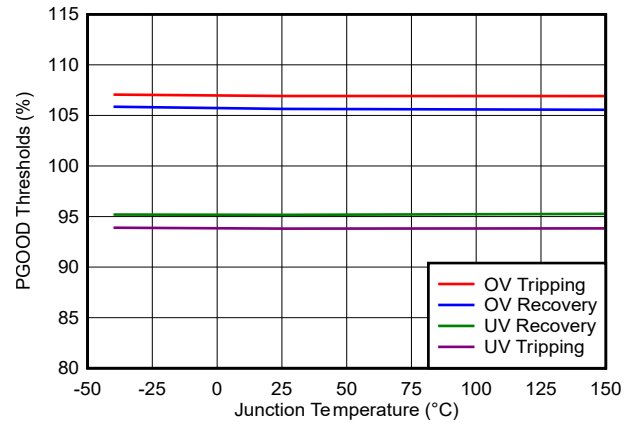
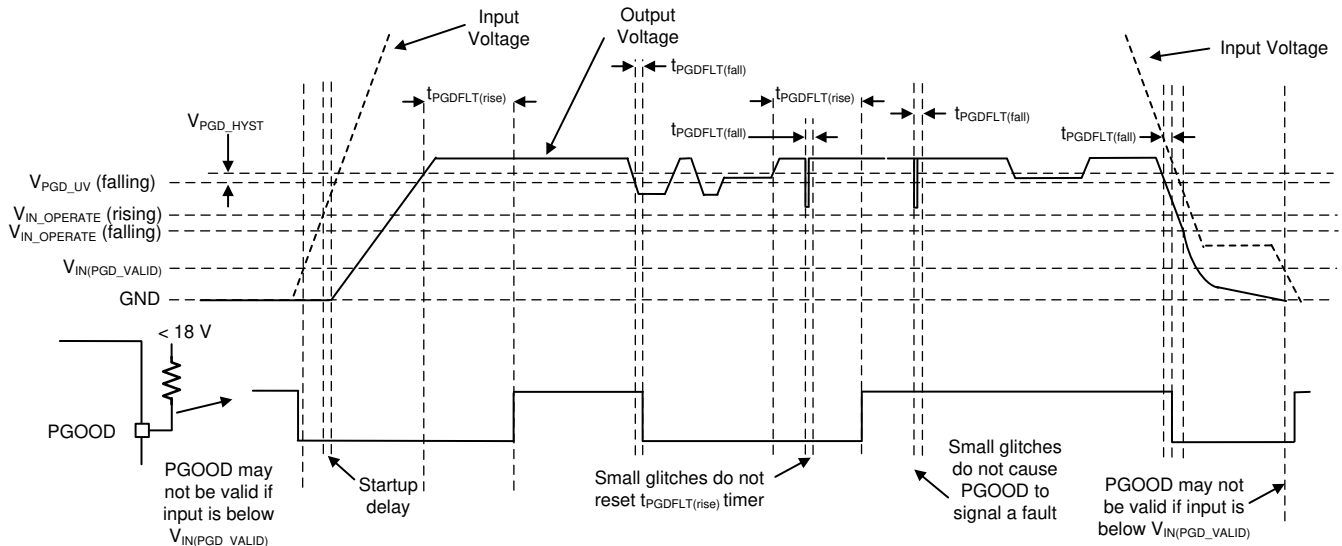

图 6-8. PGOOD Thresholds
图 7-5. PGOOD Timing Diagram (Excludes OV Events)
The PGOOD function is implemented to replace a discrete reset device, reducing BOM count and cost. The PGOOD voltage goes low when the feedback (FB) voltage is outside of the specified PGOOD thresholds (see 图 6-8). This can occur during current limit and thermal shutdown, as well as when disabled and during normal start-up. A glitch filter prevents false flag operation for short excursions of the output voltage, such as during line and load transients. Output voltage excursions that are shorter than $t_{PGDFLT(fall)}$ do not trip the PGOOD flag. Refer to 图 7-5 to best understand PGOOD operation.
$V_{OUT} < V_{OUT-target} \times PGD_{UV}$ AND $t > t_{PGDFLT(fall)}$	Output voltage in regulation: $V_{OUT-target} \times (PGD_{UV} + PGD_{HYST}) < V_{OUT} < V_{OUT-target} \times (PGD_{OV} - PGD_{HYST})$ (see 图 6-8)